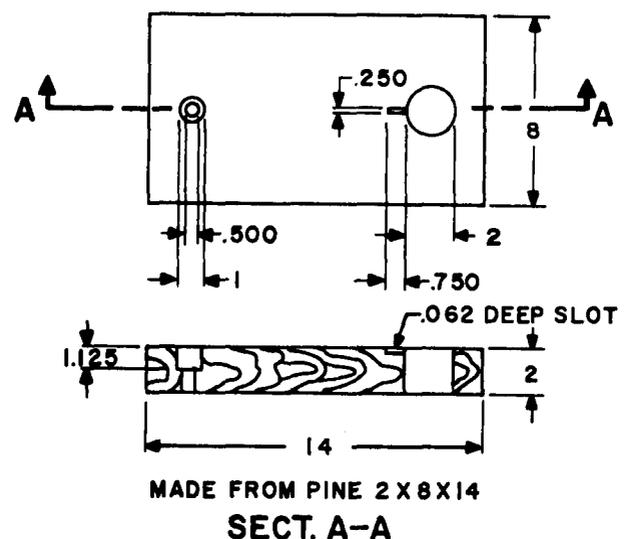
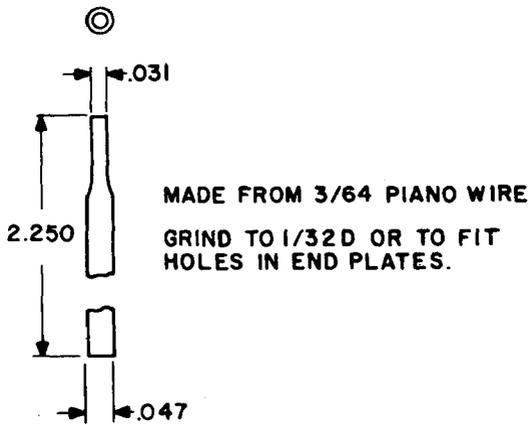

Fig. 4 - Work Board
Fig. 5 - Punch Pins
(2) Some bearings bind in the end plates due to dried grease. These can be removed as follows: Insert the punch in the X-Acto hand drill and pin vise as far as possible before tightening chuck. Where top bearing is frozen in its recess, the motor is placed over the 2-inch hole in the board to prevent winding damage, with the contact wire laying in the slot to prevent damage to that wire (see Fig. 4). The bearing may then be driven out by gently tapping on the punch pin inserted alternately through each of the two holes located in the end plate over the outer race (see Fig. 5.) The pin bears on the outer race. Care should be used in this operation to prevent the punch pin from bending and being driven through the ball retainer of the bearing. This can best be prevented by keeping the punch at an angle toward the outer portion of the race and using only light taps, frequently alternating from one hole to the other. *Do not attempt to pull the armature out of the bearing by tapping the end of the armature.* A small amount of petroleum spirits placed in the holes may assist in
4. Fig. 4, 5, 6, and 7 added.